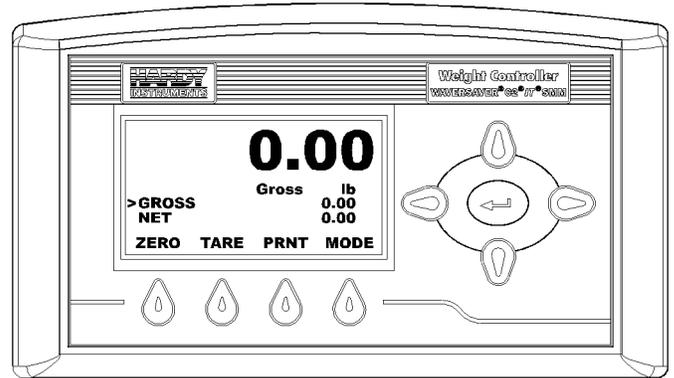

FIG. 9 SUMMARY DISPLAY
- Step 2. The Instrument boots up to the Summary Display. (See Fig. 9)